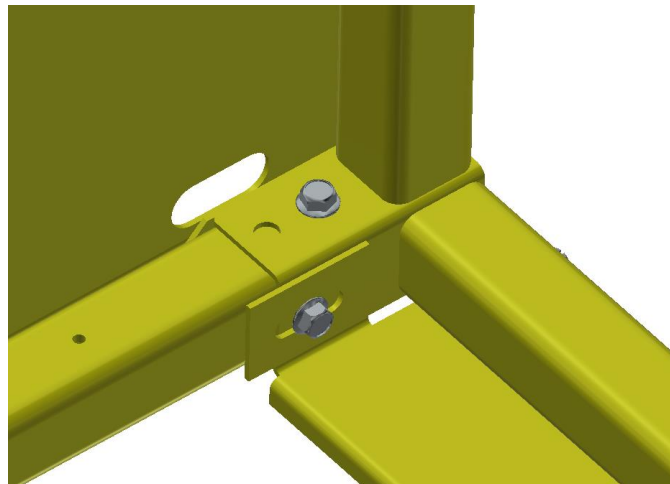

Figure 16: Machine Guard Side Filler Panel Installation
- Install the Machine Guard Side Filler Panels (p/n _ _-243) as shown below with the 1/4-20 hardware that was just removed (Figure 16).